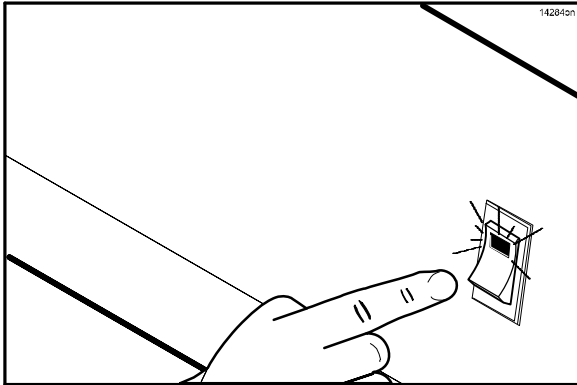

Figure 23
1. Place the fan interlock switch in the ON position. The controller will display the message "OFF". (See Figure 23.)